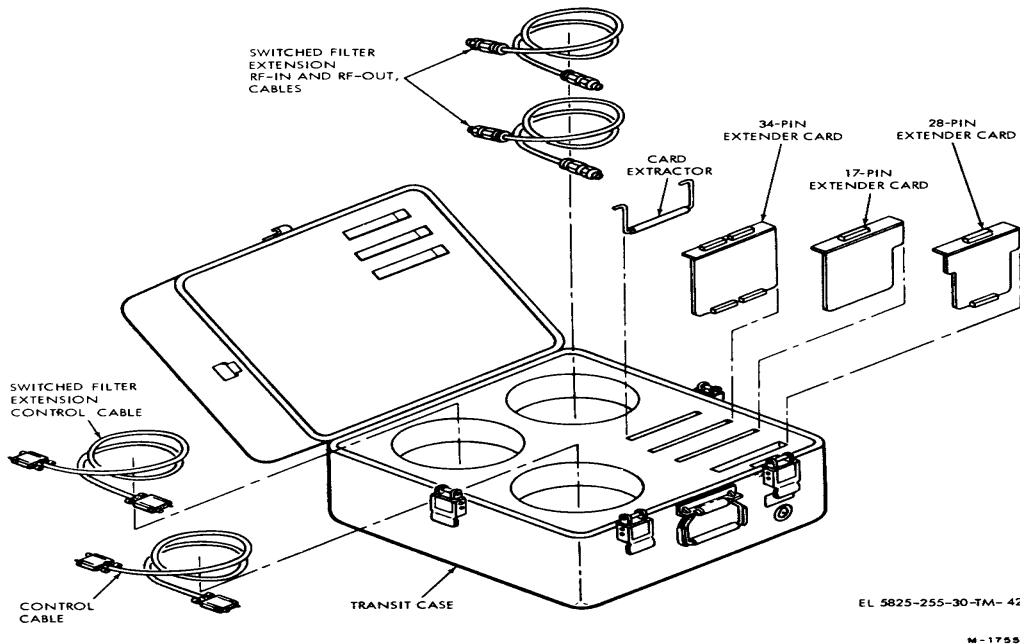

Figure 3-2. Maintenance Kit, Electronic Equipment MK-1805/TRN-30(V)
(4) *Maintenance Kit, Electronic Equipment MK-1805/TRN-30(V)* (fig. 3-2). The MK-1805 contains a circuit card extractor, three circuit card extender assemblies, and four cable assemblies required to perform direct support testing and troubleshooting. The components of the maintenance kit are contained in a transit case for storage and shipment. The components of the maintenance kit are listed and described below: